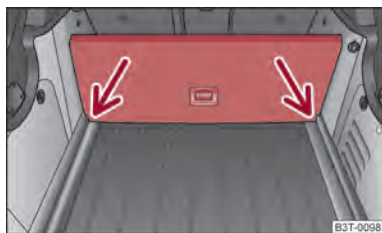

Fig. 75 Luggage compartment: Dividing the luggage compartment with variable loading floor
- Lift up the part with the holder and secure it by sliding it into the grooves → fig. 75.